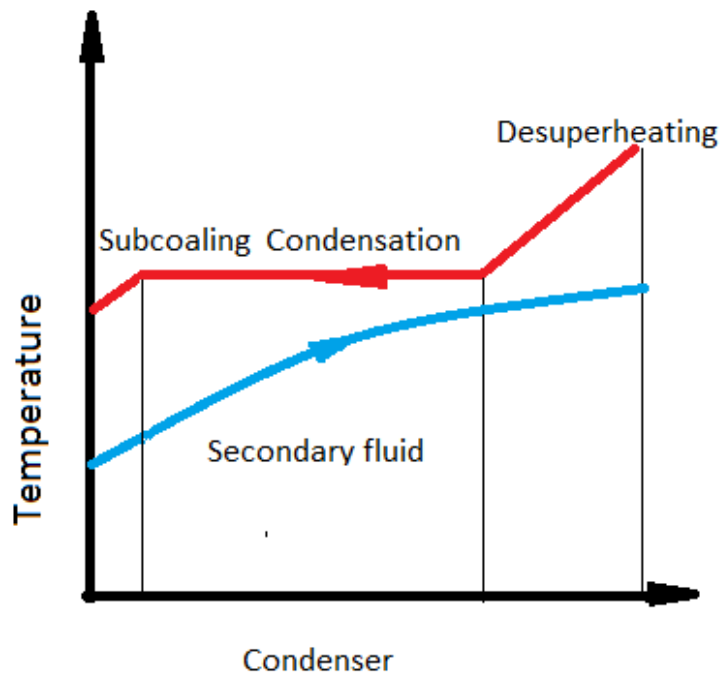

Fig.12. The condenser processes
- The refrigerant passes through three areas Fig.12.: desuperheating zone, condensation zone, supercooling zone.